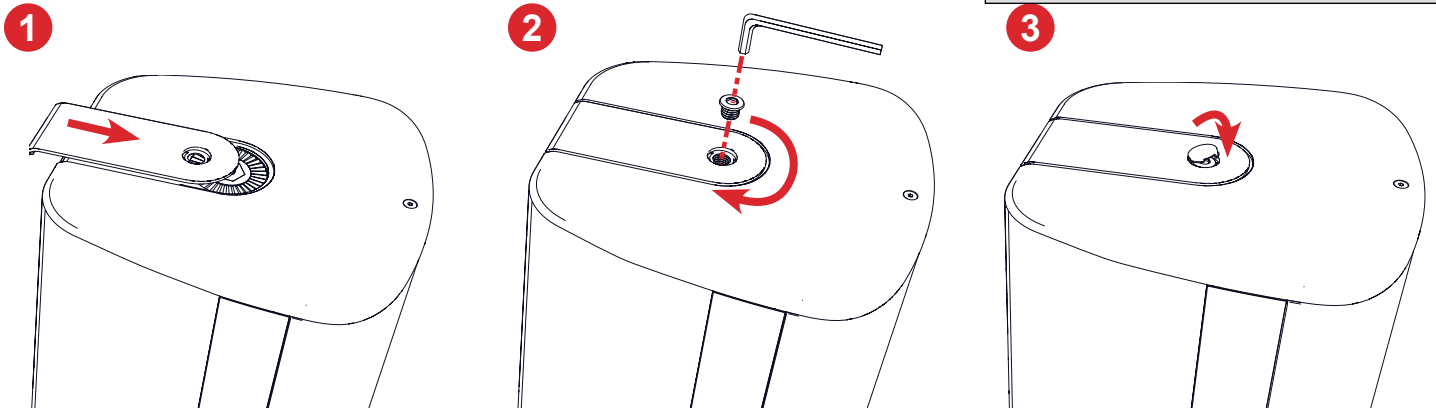

Figure 1. End cover attachment
1. Slide cover on and seat over the threaded insert (Figure 1).